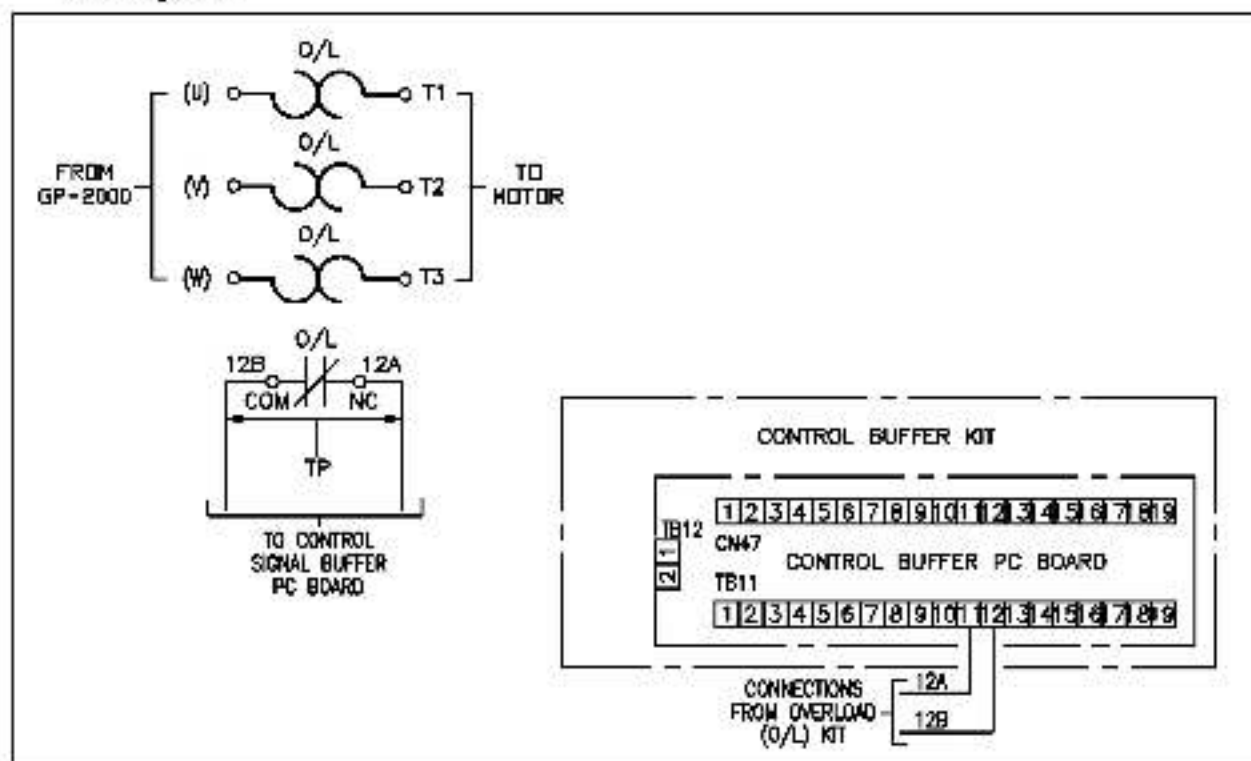

Figure 2. Overload Relay Connection Diagram
9. Connect from terminals U, V, W on the controller to the appropriate terminals on the overload relay. If an Output Contactor Kit is installed, connect U, V, W to the output contactor and connect the output contactor to the overload relay. Refer to Figure 2 for wiring detail.
10. Using wire harness 611899-62R (or twisted pair wire), connect from terminals NC and COM on the overload relay to terminals 11 and 12 (or function loss terminals) on the Control Signal Buffer. Refer to Figure 2 for wiring detail.
11. Connect the motor leads to terminals T1, T2, and T3 on the overload relay. Refer to Figure 2 for wiring detail.